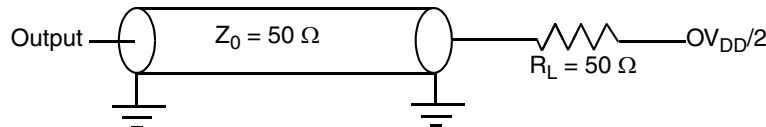

Figure 32. AC Test Load for the JTAG Interface
1. All outputs are measured from the midpoint voltage of the falling/rising edge of t_{TCLK} to the midpoint of the signal in question. The output timings are measured at the pins. All output timings assume a purely resistive 50-Ω load (see Figure 32). Time-of-flight delays must be added for trace lengths, vias, and connectors in the system.
2. The symbols used for timing specifications herein follow the pattern of $t_{(first\ two\ letters\ of\ functional\ block)(signal)(state)\ (reference)(state)}$ for inputs and $t_{(first\ two\ letters\ of\ functional\ block)(reference)(state)(signal)(state)}$ for outputs. For example, t_{JTDVKH} symbolizes JTAG device timing (JT) with respect to the time data input signals (D) reaching the valid state (V) relative to the t_{JTG} clock reference (K) going to the high (H) state or setup time. Also, t_{JTDXKH} symbolizes JTAG timing (JT) with respect to the time data input signals (D) went invalid (X) relative to the t_{JTG} clock reference (K) going to the high (H) state. Note that, in general, the clock reference symbol representation is based on three letters representing the clock of a particular functional. For rise and fall times, the latter convention is used with the appropriate letter: R (rise) or F (fall).
Figure 32 provides the AC test load for TDO and the boundary-scan outputs.
Figure 32 provides the AC test load for the I²C.